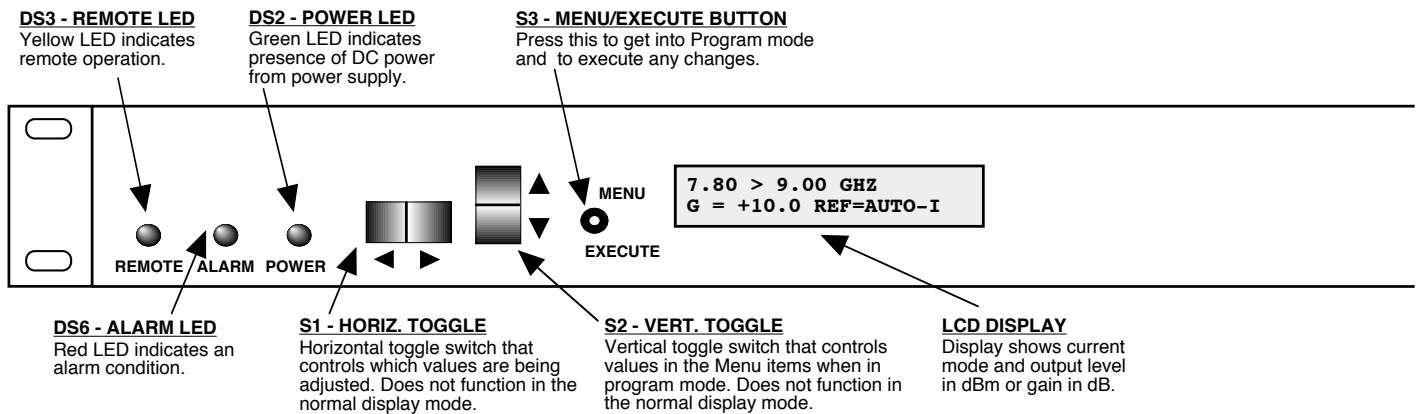

FIGURE 2.2 3116-7890 Front Panel Controls and Indicators
Figure 2.2 shows the front panel controls and indicators.
6. Be sure DS2 (green, DC Power) is on and DS6 (red, Alarm) is off (Figure 2.2).
Alarm indications appear on the LEDs (see Figure 2.2).